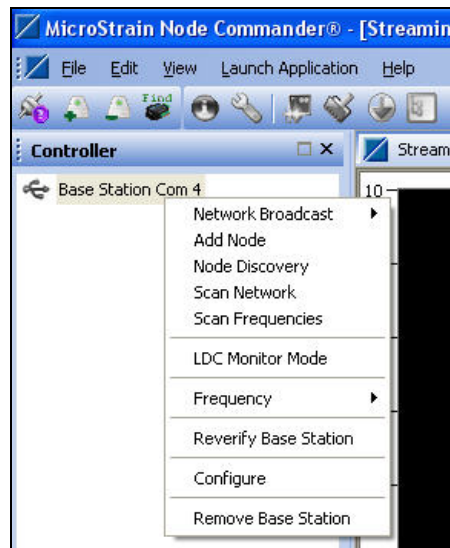

Figure 4
- Right-click on the base station and a pop-up menu will appear. See Figure 4.